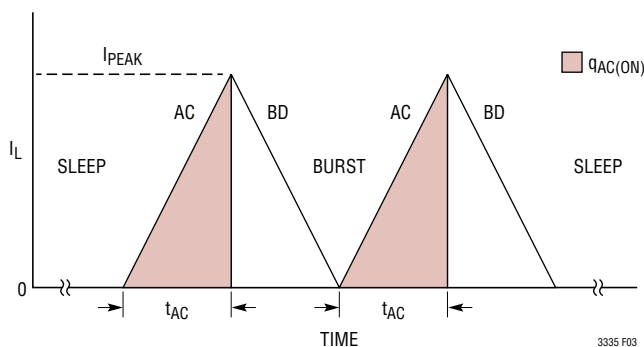

Figure 3
The LTC3335 integrates a precision coulomb counter to monitor the accumulated charge that is transferred from the battery whenever the buck-boost converter is delivering current to VOUT. The buck-boost converter operates as an H-Bridge for all BAT/VOUT conditions when not in sleep (see Figure 3). Switches A and C turn ON at the beginning of each burst cycle. Inductor current ramps to IPEAK and then switches A and C turn OFF. Switches B and D then turn ON until the inductor current ramps to zero (IZERO). This cycle repeats until VOUT reaches the sleep threshold.
If IPEAK and the switch AC(ON) time (tAC) are both known, then the BAT discharge coulombs (shaded area in Figure 3) can be calculated by counting the number of AC(ON) cycles and multiplying by the charge per AC(ON) cycle given in Formula (1) below: